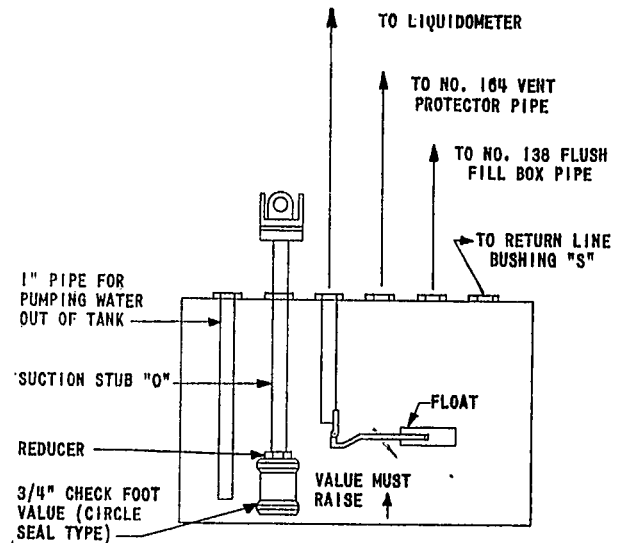

FIG. 2 ASSEMBLY OF PARTS IN FLOOR MOUNTED FUEL TANK (PAR. 6.5)
6.5 Figure 2 shows assembly of parts located within floor-mounted fuel tank.